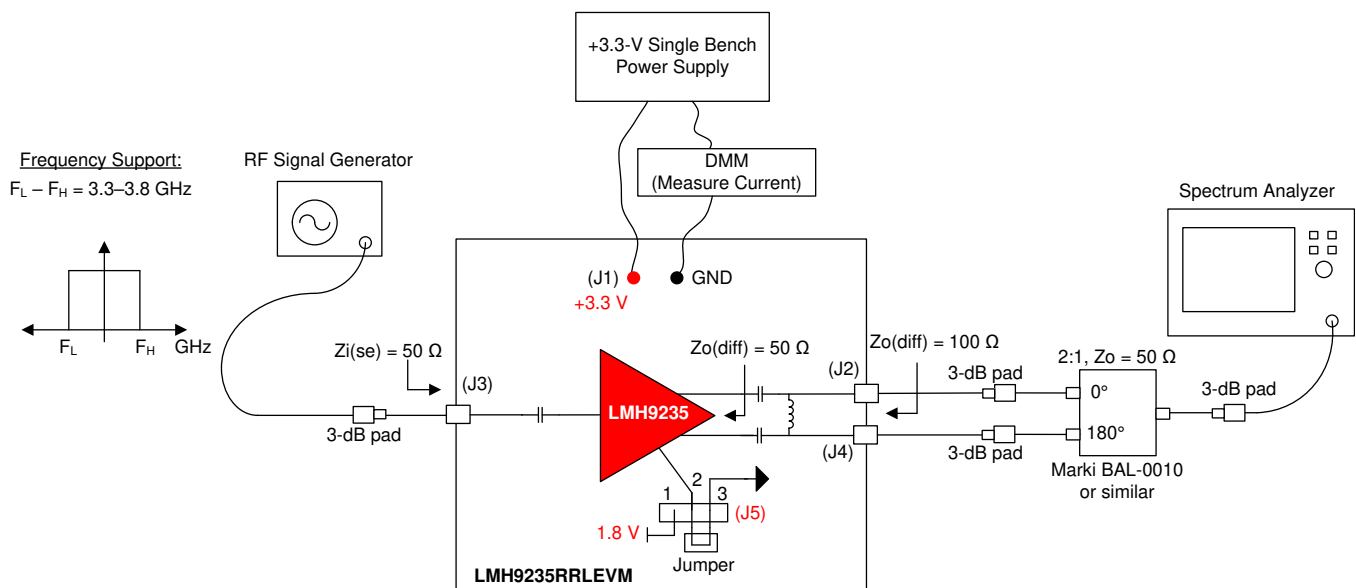

Figure 1. Single Tone Setup for Gain and Output P1dB
This section provides general usage information for the LMH9235 EVM. See Figure 1 for a general single tone setup diagram as a reference point for the following instructions. Some components such as supply bypass capacitors and power down reference voltage generation circuits are omitted in Figure 1 for clarity.
- c. When measuring the EVM for single tone distortion products, TI recommends using an RF band pass filter (not shown in Figure 1) between the signal source and J3 SMA input.
- f. When connecting to a spectrum analyzer single-ended input, the differential signal out of the EVM should be converted to a single-ended signal using a passive balun as shown in Figure 1.